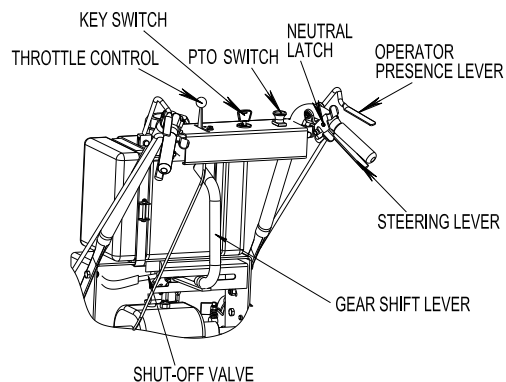

FIG 1
2.6 Operator Controls (See FIG 1)